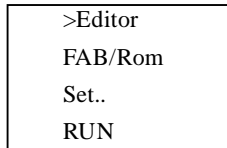

Fig. 4.17
3. If you correctly select the block number and press OK, then FAB will display as shown in Fig. 4.17. It means the selected block has been deleted.